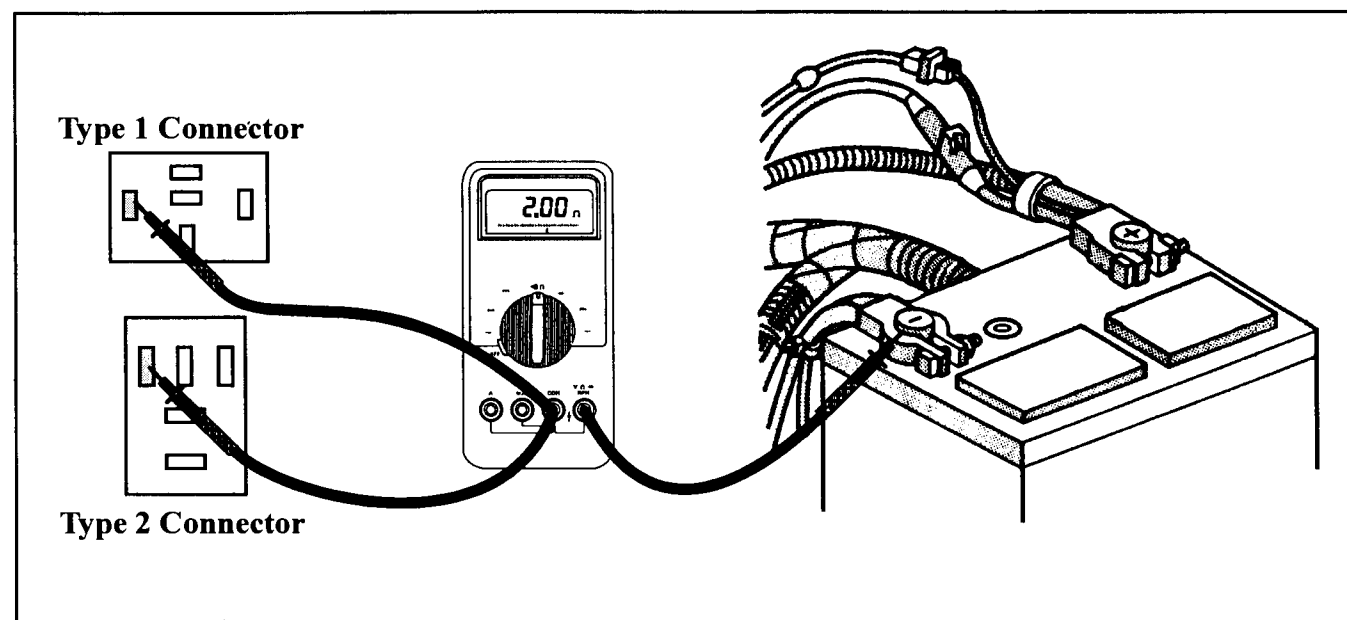

Figure 19
- Check for continuity between the ground terminal on the battery to the terminal in the relay connector as shown in Figure 19. If an open is seen, repair the wire. If an open is not seen, go to the next step.